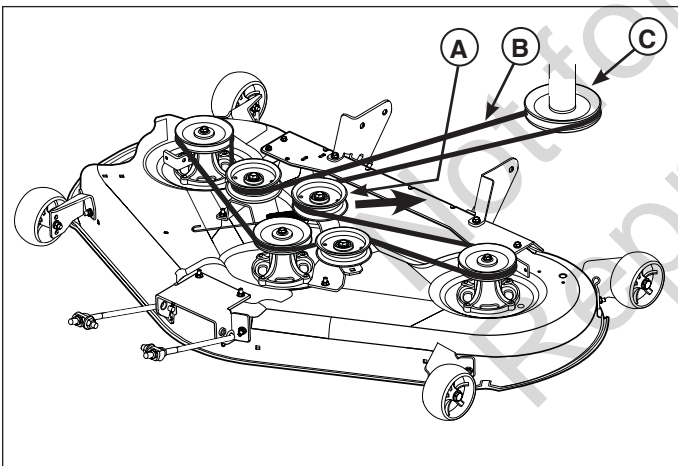

Figure 21. Mower Belt Routing
3. Pull back on the tensioning idler (A, Figure 21) in the direction indicated by the arrow, and remove the mower belt (B) from the PTO pulley (C).
6. Pull back on the tensioning idler (A, Figure 21) in the direction indicated, and install the belt (B) onto the PTO pulley (C) as shown in Figure 21.